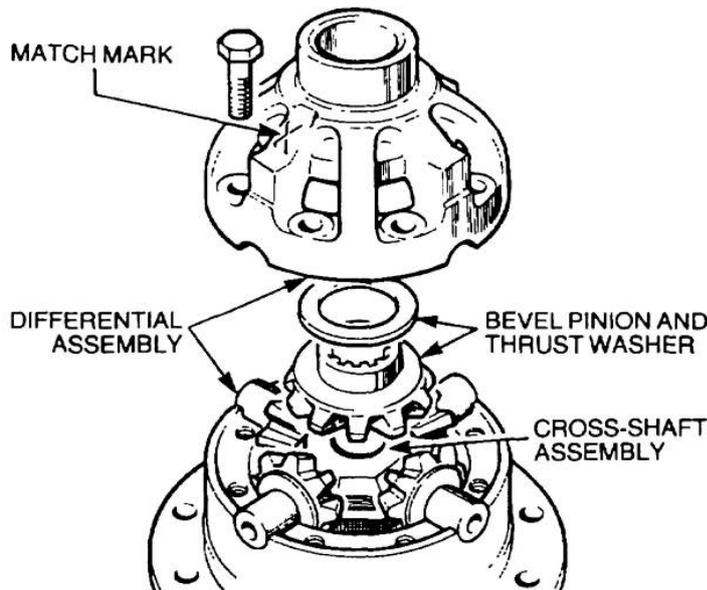

Figure 235 Reassembly of the Differential
- a. Install a bevel pinion and thrust washer in the differential half, fit the four pinions and dished thrust washers on the cross-shaft. Position the cross-shaft assembly in the differential half, install the remaining bevel pinion, a new thrust washer and the remaining differential half, ensuring the match marks on the differential halves are aligned (Figure 235).